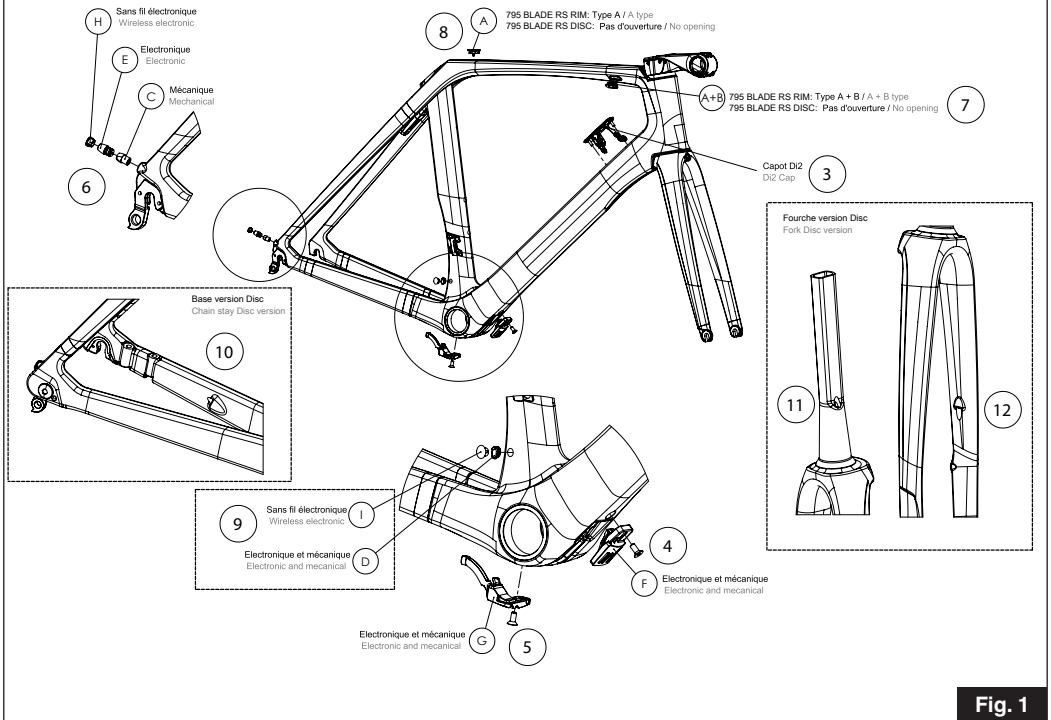

Fig. 1
2 / Take two 110 cm derailleur liners, pass one liner into entrance 2 (fig. 2) and the other into entrance 1 (fig. 2). Pass the liners out of opening 4 (fig. 1), put a liner cap on the end of each liner on the bottom bracket end.
3 / Take two 110 cm derailleur liners, pass the forward derailleur liner into entrance 2 (fig. 2) and the rear derailleur liner into entrance 1 (fig. 2). Pass the liners into the support sheet according to your configuration (Fig. 3-4-5-6). Pass the liners out of opening 4 (fig. 1). Thread the two liners through the foam (long foam tube) for each of the derailleur liners at exit 4, about 7 cm from the bottom end and attach adhesive tape.
7 / If you route your bike for a hydraulic system, then pass the front brake hose into opening 2 (Fig. 2) then through entrance 11 (Fig. 1) and finally take it out at branch 12 (Fig. 1), if the brake caliper hose is pre-routed then pass through the hole at branch 12 (Fig.1) and out through the fork pivot opening 11 (Fig. 1) then through entrance 2 (Fig. 2). Important: Before carrying out the following steps you must fit the ADH2 handlebar (recommended) or a handlebar with a diameter of 31.8 mm and the AERO DESIGN STEM (ADS). Refer to the relevant instructions.
8 / Pass the rear derailleur cable from the shifter and pass it out through exit 6 (fig. 1) put the cap (C) and the liner onto the cable.
9 / Cut the liner at exit 9 (fig. 1) to about 5 cm.
10 / Pass the front derailleur cable from the shifter and pass it out through exit 9 (fig. 1) then install the liner grommet / angled exit wire (D).
- 1 / Remove the derailleur end cap (F).
- 6 / Refit the end cap (F) (**see §. End cap / guide liner section**).
- 7 / If you rout your bike for a hydraulic system then pass the front brake hose through opening 2 (Fig. 2) then through entrance 11 (Fig. 1) and finally pass
it out at branch 12 (Fig. 1), if the brake caliper and its hose are pre-routed then go through the hole at branch 12 (Fig. 1) and exit through the opening of the fork pivot 11 (Fig.1) then go through entrance 2 (Fig. 2).
- 8 / Pass the electrical cable (E) through entrance 6 (Fig. 1).
- 9 / Pass the front derailleur electrical cable and let it out through exit 9 (Fig. 1) then install the liner grommet / electrical angled exit wire (D).